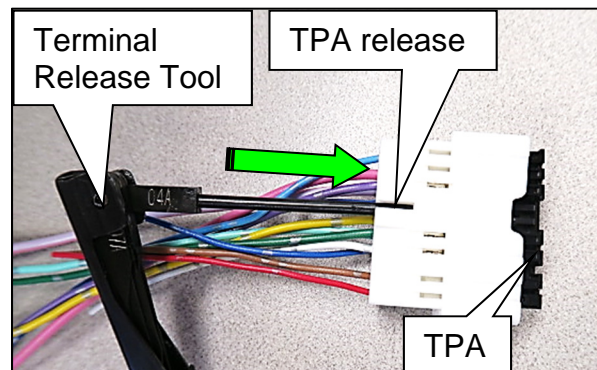

Figure 24
21. Insert the 04A tool into the TPA release, and then push the TPA toward the terminal side of the wire harness connector, as shown in Figure 24.